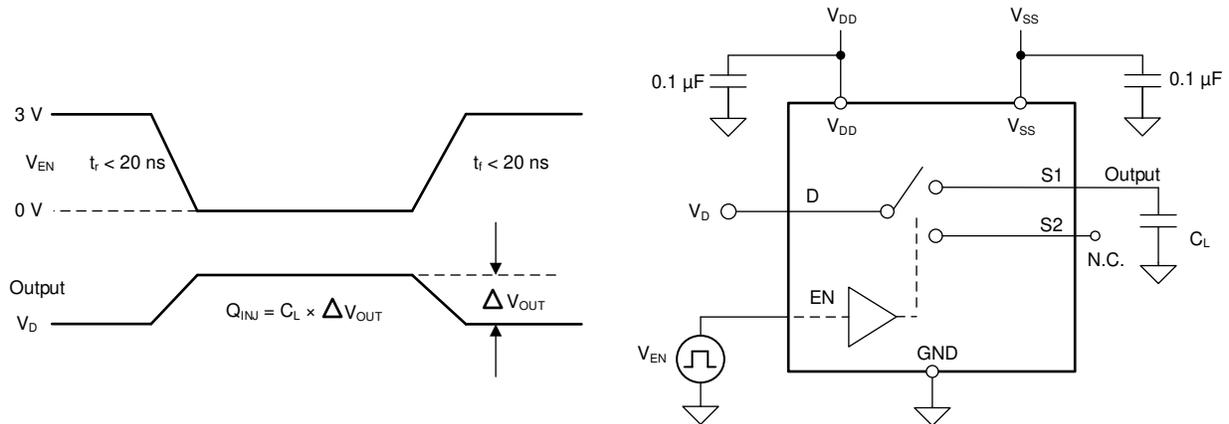

Figure 7-9. Charge-Injection Measurement Setup
The TMUX6219-Q1 has a transmission-gate topology. Any mismatch in capacitance between the NMOS and PMOS transistors results in a charge injected into the drain or source during the falling or rising edge of the gate signal. The amount of charge injected into the source or drain of the device is known as charge injection, and is denoted by the symbol  $Q_C$ . Figure 7-9 shows the setup used to measure charge injection from source (Sx) to drain (D).